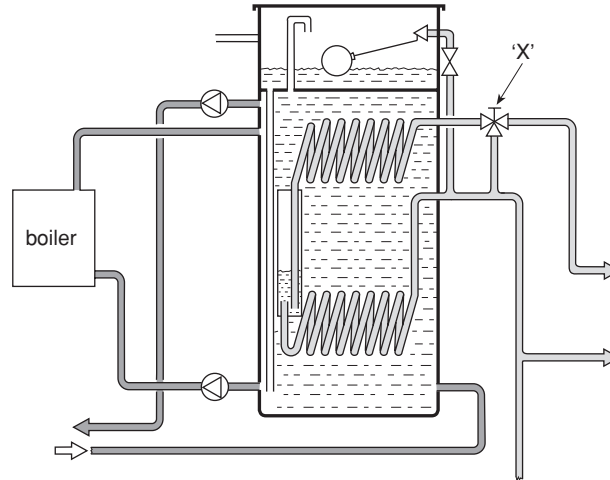

Figure 14
- (34) Name the instantaneous water heater shown in Figure 14 and state the purpose of the valve indicated at 'X'. (Page 113.)